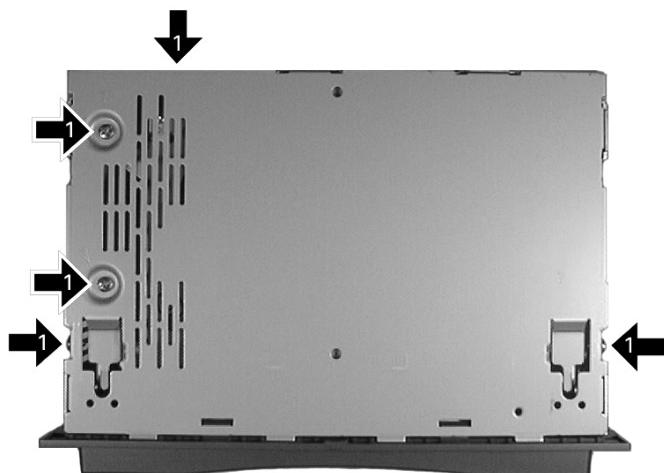

Fig.1
7.1.2 DISASSEMBLY**● Removing the Upper Case (Fig.1)**